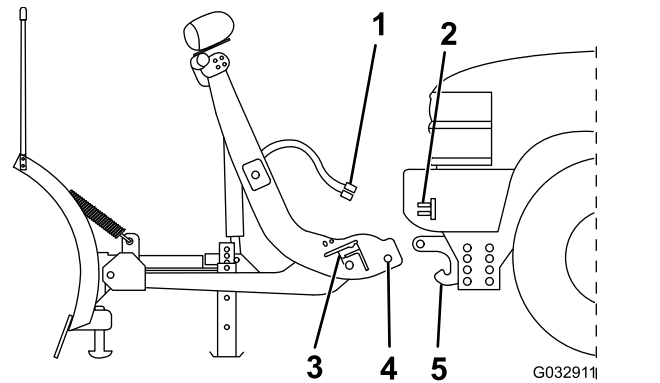

Figure 16
2. Line up the vehicle with the snowplow and slowly drive forward until the lower pin contacts the push-beam pin receiver (Figure 16).
4. Remove the electrical-plug dust covers and connect the plow wire harness to the vehicle wire harness (Figure 16).